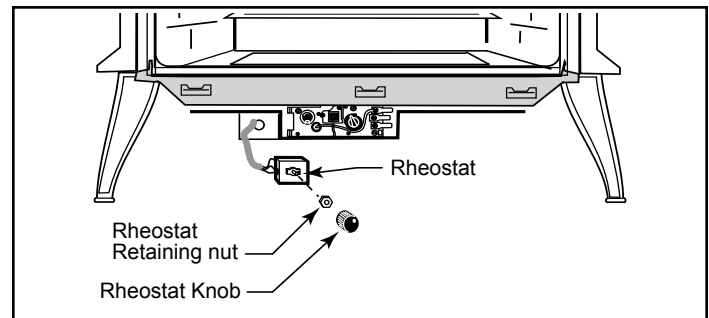

Figure 49 - Attach fan rheostat.
3. The rheostat control switch attaches to the left side of the valve bracket at the front of the stove. (Figure 49)